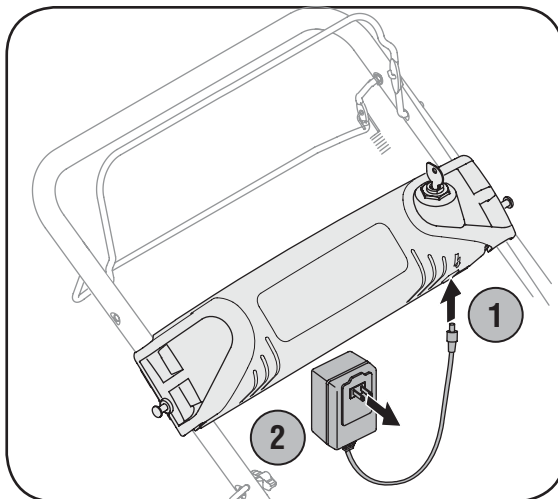

Figure 5-7
1. Plug the battery charger into the port on the underside of the battery housing, Figure 5-7.
2. Insert the battery charger plug into a standard 120 volt household outlet. See Figure 5-7. Charge battery for 8 to 10 hours before initial use. **Do not charge longer than 12 hours.** The battery should only need to be charged upon initial setup and after any other extended periods of non-use.